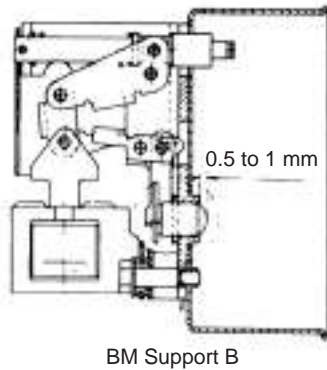

Fig. 3 Adjustment screw backup amount
- ① When the adjustment limit is reached, the adjustment screw will extend past the BM support surface. Mistakenly assembling this as is will cause the brake gap to decrease or cause the brake to remain engaged. The adjustment screw is designed to prevent the adjustment lever from being backed up, so use a screwdriver to carefully lift up the adjustment lever to remove it from the adjustment screw teeth. In this state the adjustment screw can be backed up. Turning the adjustment screw counterclockwise will return the adjustment screw to the solenoid side.
- ② Return the adjustment screw end until it extends about 0.5 to 1 mm beyond the surface of BM Support B. When the screwdriver is removed in this state, the spring force causes the adjustment lever to engage with the adjustment screw teeth. (Fig. 3)